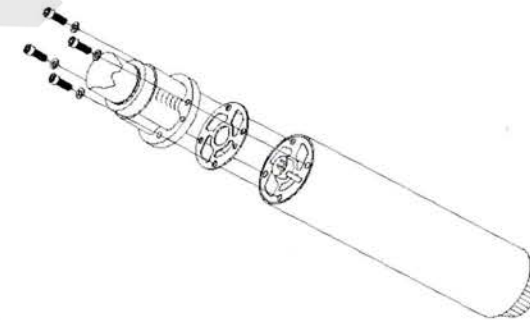

Figure 4: Aligning the FSP gasket
4. Install the FSP retaining bolts and lock washers (see Figure 4). Snug and then torque the bolts using a cross pattern. Torque to 7 f-lb. (11N*m)